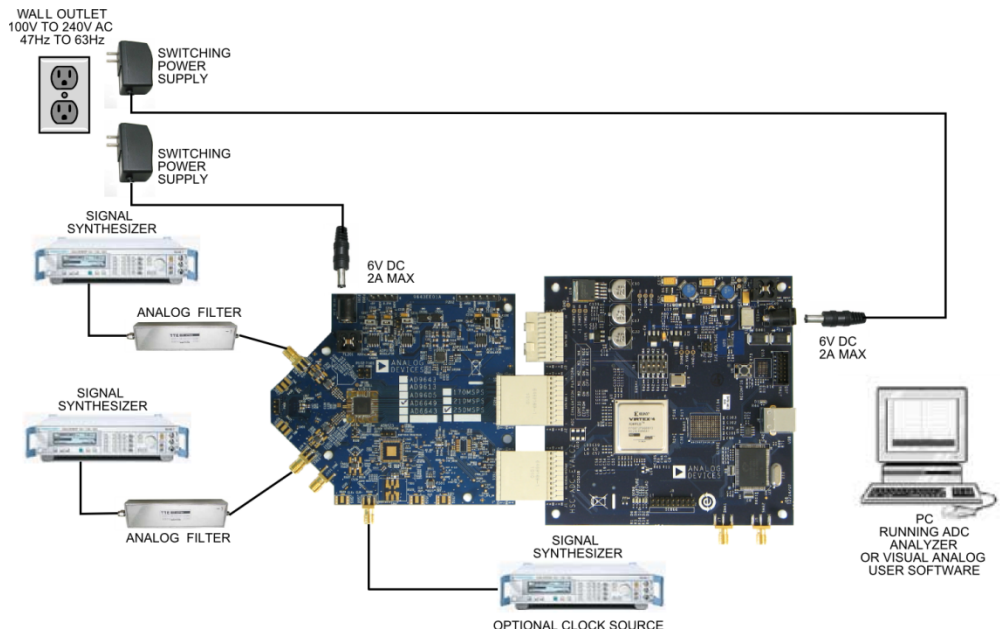

Figure 1: AD6643 Evaluation Board with HSC-ADC\_EVALCZ Data Capture Board
1. Connect the AD6643 evaluation board and the HSC-ADC-EVALCZ board together as shown in Figure 1.
9. Next open the SPI Controller software. If prompted for a configuration file, select the configuration file titled AD6643spiR03.cfg. If not, check the title bar of the window to see which configuration is loaded. If necessary, choose "Cfg Open" from the "File" menu and select one of the configuration files named above. Note that the CHIP ID(1) field may be filled whether the correct SPI Controller configuration file is loaded or not.
11. Set the DCO Clk Delay Enable checkbox in the FLEXOUTPUT DELAY(17) panel on the ADCBase0 tab as shown below. In addition, set the DCO Clk Delay register to the '600ps